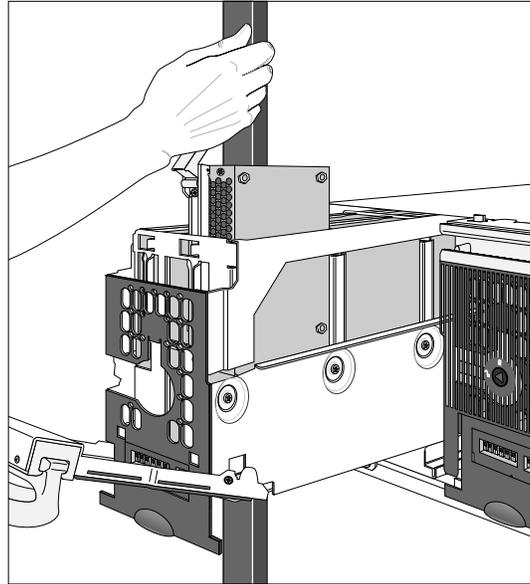

Figure 15. Removing and Replacing the Disk DCC
- b. Grasp the handle and lift the Disk DCC up and out of the drive slot (Figure 15). Use your other hand to support the Disk DCC if necessary, but be careful not to touch the PCB components.
- c. Slide the Disk DCC into the Disk DCC slot in the replacement drawer (Figure 15).